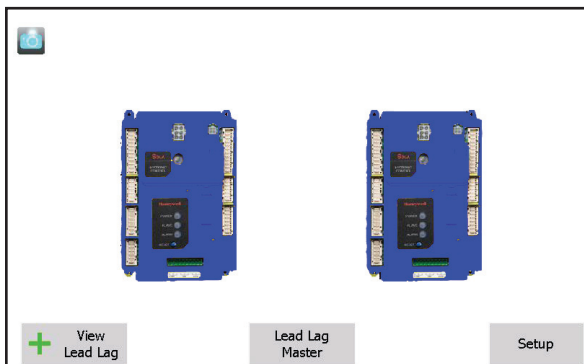

Fig. 124 – 'home' screen
- To view the Lockout history, start at the 'home' screen (Fig. 124).